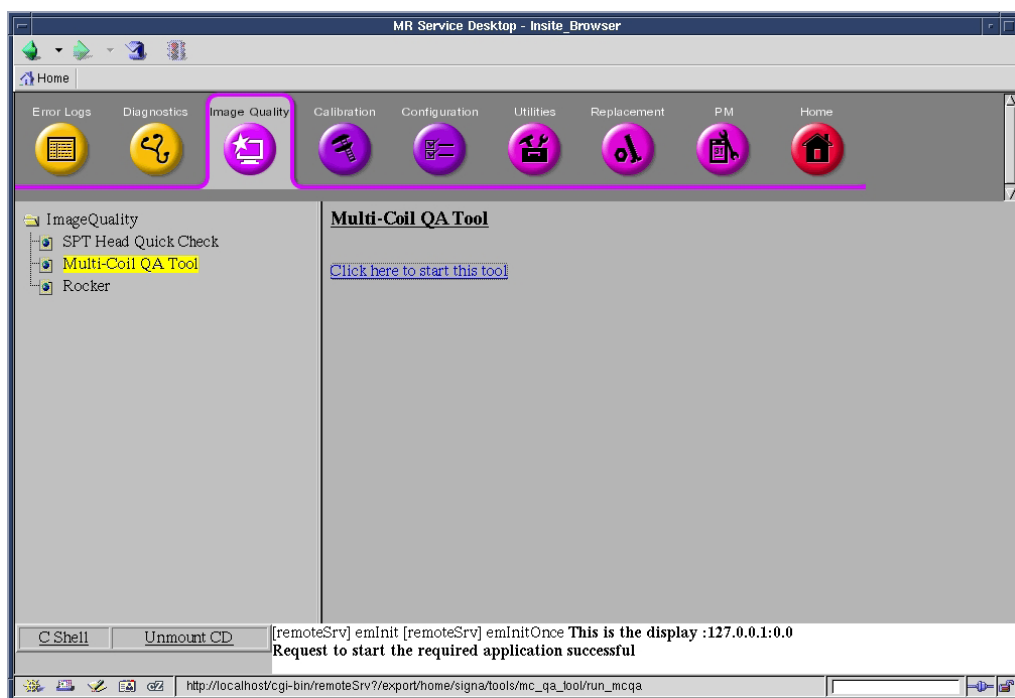

Figure 32: MCQA from the Service Desktop
1. From Common Service Desktop (CSD) go to Service Browser and select **[Image Quality]**, "Multi-Coil QA Tool" and then "Click here to start this tool" as shown in Figure 32.